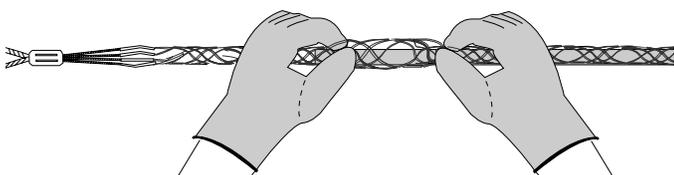

Figure 4
**4.5** Use a pumping action to “walk” the grip over the jacket by bringing your hands together and then relaxing them (Figure 4).